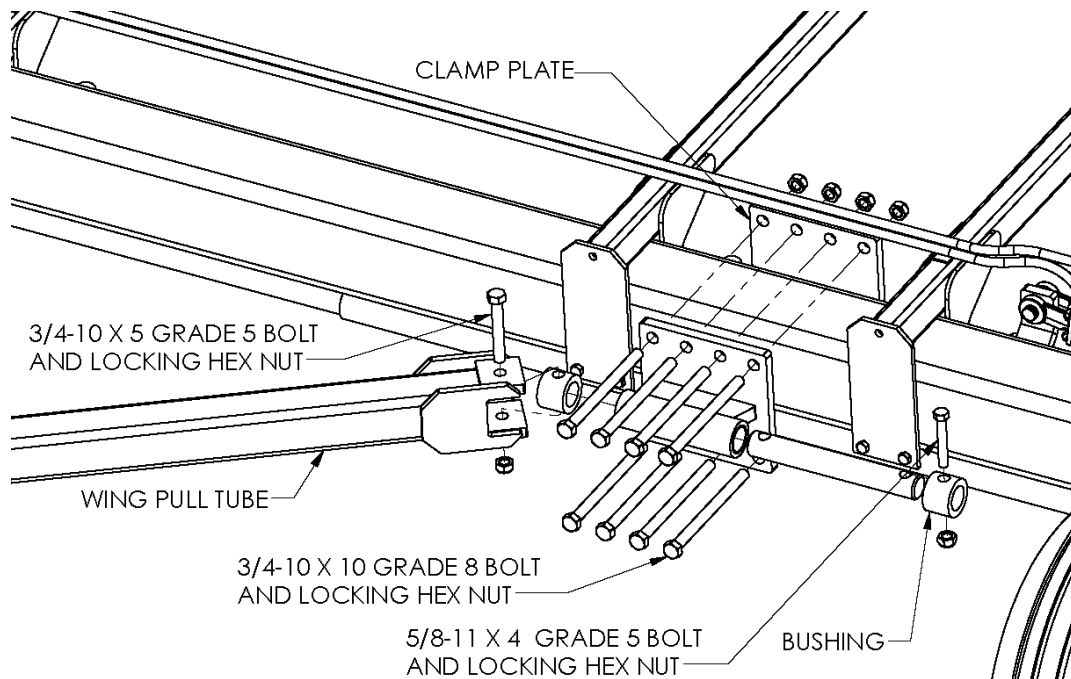

Figure 24
1. Be sure the wing is in line with the center bar. Using the pull tube as a guide, attach the main pull tube anchor assembly to the wing in the approximate position shown in Figure 24. Use eight 3/4-10 x 10, grade 8 bolts and locking hex nuts and a clamp plate. Do not tighten bolts yet. Attach the pull tube to the wing anchor bracket with the 3/4-10 x 5, grade 5 bolt and locking hex nut and the 5/8-11 x 4 grade 5 bolt and locking hex nut with the bushings and pin as shown. After all components have been assembled tighten all fasteners securely.